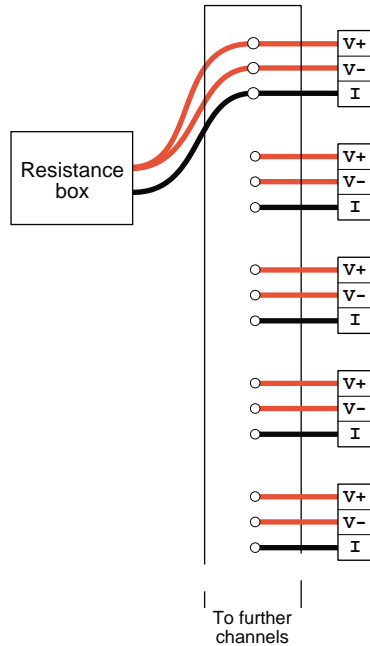

Figure 2.3.3 Calibration check wiring: resistance inputs
1. It is recommended that to save time, all the channels to be checked are connected to a terminal block as indicated in figure 2.3.3. For low resistance values, the resistance of the wiring from resistance box to input termination may have an effect. Ensure that a suitable gauge of wire is used. Ensure that the terminal cover is in place after wiring.